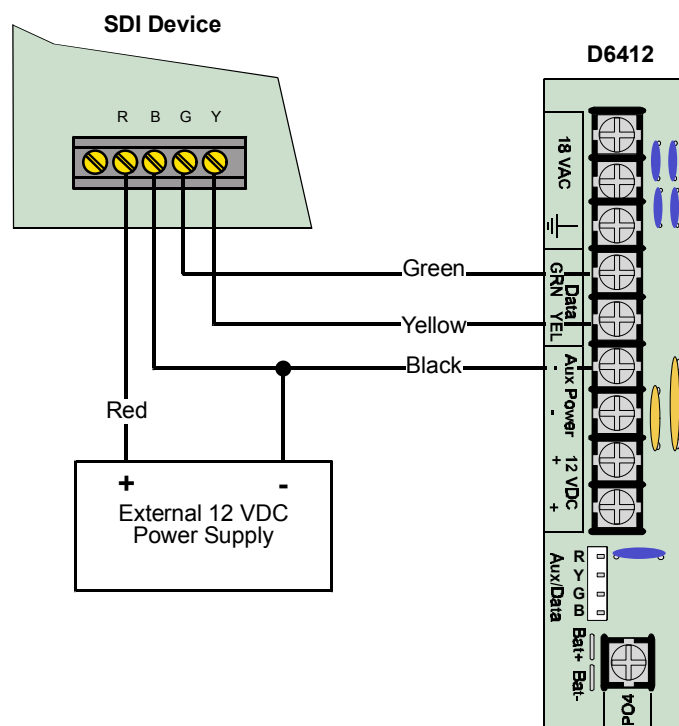

Figure 34: External Power for SDI Devices
**Control/Communicator and External Power Supply must share COMMON:** Figure 34 shows the common from the External Power Supply Module connected to both the Command Centers' common and the common on the Control/Communicator.